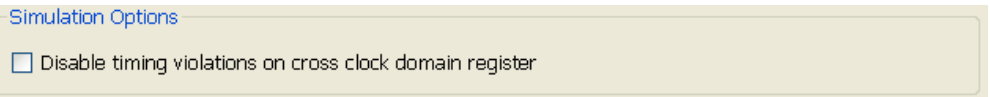

Figure 8-19: AXI4-Stream Interface FIFO: Page 5 - Simulation Options
- Simulation Options can be set using the a similar option on Page 5 of the AXI4-Stream FIFO GUI, as shown in Figure 8-19.